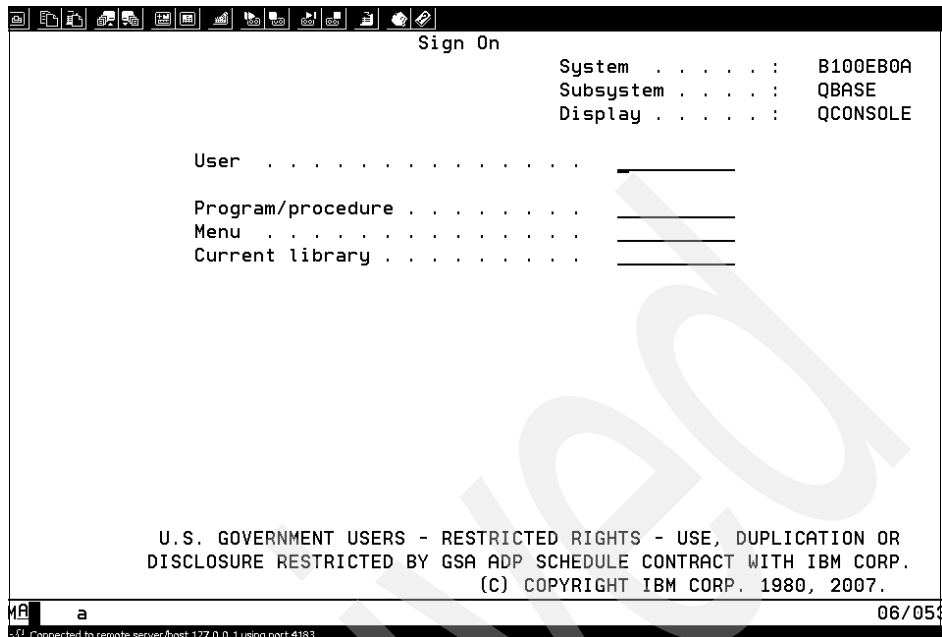

Figure 7-66 Sign On panel
8. When the Sign On panel is displayed, as shown in Figure 7-66 on page 304, the base installation of the IBM i 6.1 Operating System is completed.